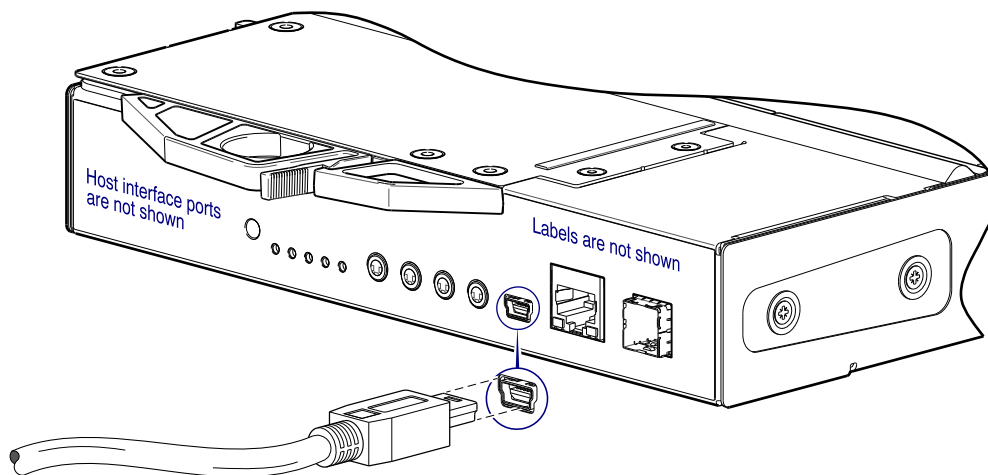

Figure 73 Connecting a USB cable to the CLI port
2. Use the provided USB cable to connect controller A to a USB port on a host computer. The USB mini 5 male connector plugs into the CLI port as shown in Figure 73 (generic controller module is shown).
If communication with the CLI is disrupted when using an out-of-band cable connection, communication can sometimes be restored by disconnecting and reattaching the mini-USB CLI cable as described in step 2 and Figure 73 (page 74).